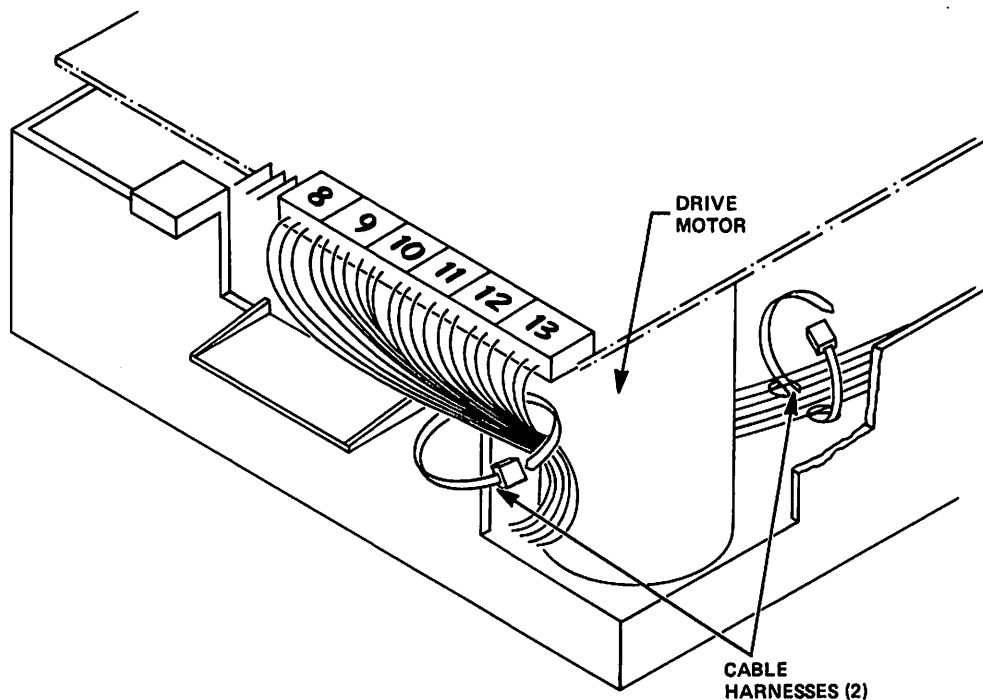

Figure 5-20
5.11.2 Cut the two (2) harnesses that hold the bundle of cables at the back of the drive motor, and that attach the cables to the bottom of the chassis (see Figure 5-20).
- 5.11.12 Harness the new Track 00 Switch Assembly's cables, the Activity LED Assembly's cables, and the Write Protect Switch Assembly's cables to the bottom of the chassis (see Figure 5-20).
- 5.11.13 Harness the bundle of cables, including the new Track 00 Switch Assembly's cables, located at the back of the drive motor (see Figure 5-20).